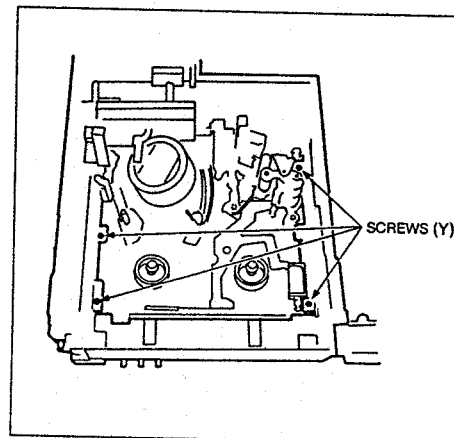

FIG. D23
7. Tighten the 4 screws (Y) as shown in FIG. D23.